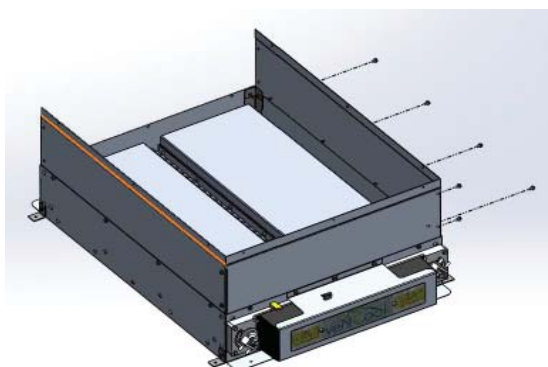
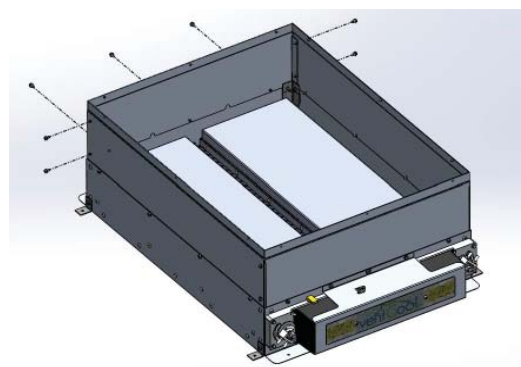

FIGURE 8 - Long Wall Assembly
FIGURE 9 - Short Wall Assembly
Insert the 2nd long wall part into the damper base and secure in place with four (4) self-tapping screws provided then install two (2) additional screws to wall joint shared with short wall as shown in Figure 8. Insert 2nd short wall part into the damper base and secure in place with three (3) self-tapping screws provided then install four (4) additional screws to wall joint shared with long wall as shown in Figure 9.